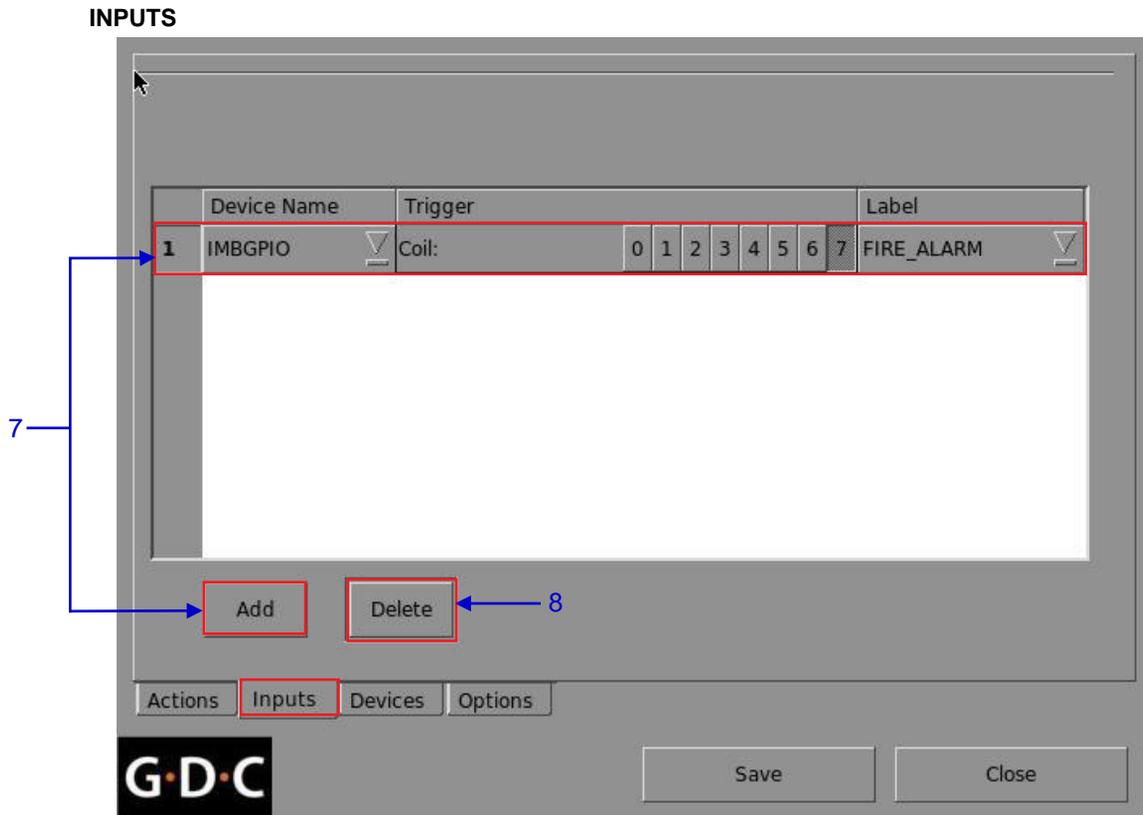

Figure 25 Inputs menu.
- 7** Press the **Inputs** button. A new window opens as seen in Figure 25. On the **Inputs** menu, press **Add** to enter the selected device.